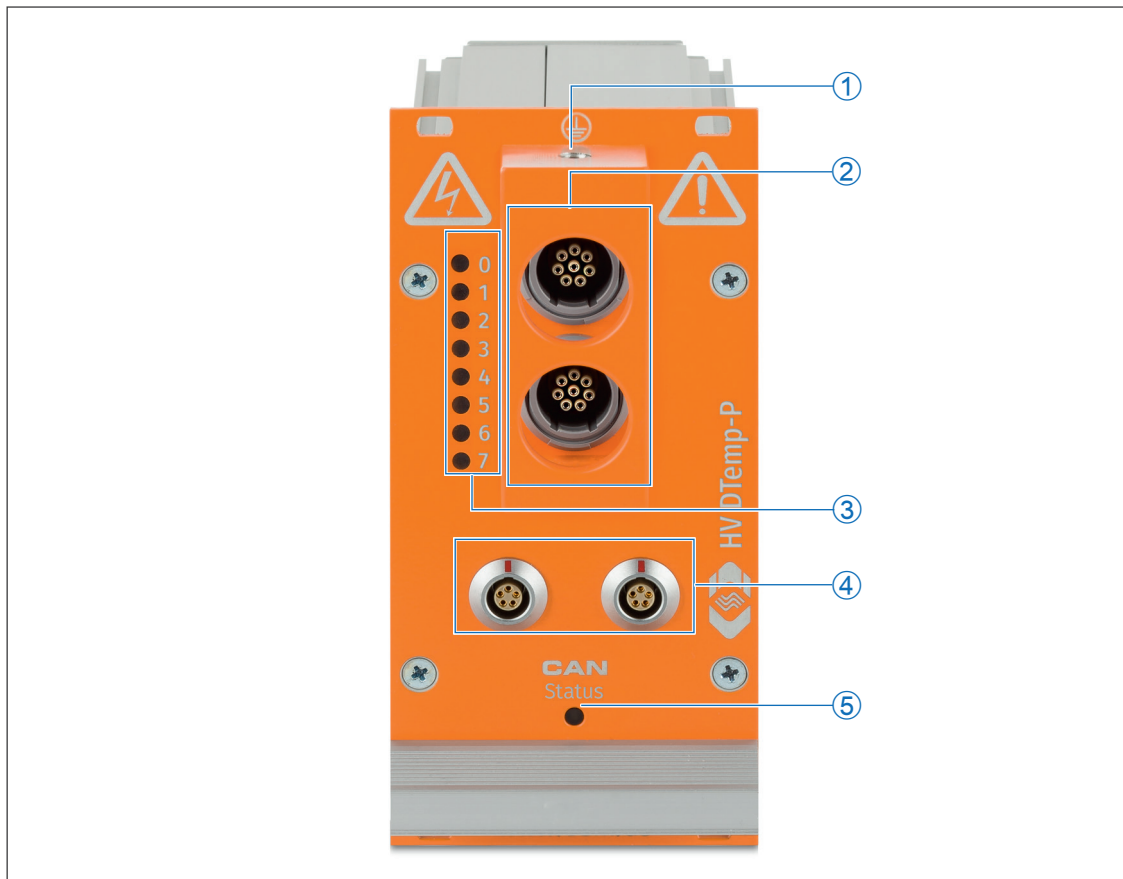

Fig. 3-2: HV DTemp-P central unit, front view
HV DTemp-M controllers handle the addressing and power supply of the sensors. They record the digital signals of the temperature sensors and transmit the temperature values to the central unit (Fig. 3-2). One controller provides 16 digital inputs ① for up to 16 (HV DTemp-M16) or 64 measuring points (HV DTemp-M64). The 4-pin sockets ② are used to
The LED below the two CAN connectors (see Fig. 3-2) provides information about the operating status of the module.
The CAN sockets located in the lower half of the front panel (Fig. 3-2, ④) are used both for transmitting CAN signals and for power supply. The interface cable connects the module with the data acquisition system (computer) and the power supply.
The controllers and the sensors connected to them are connected to the HV DTemp-P central unit using the 8-pin multi-connector sockets (Fig. 3-2, ②).
If required, the HV DTemp-P central unit can be connected to ground using the M6 threaded hole in the top side of the front bracket (Fig. 3-2, ①).